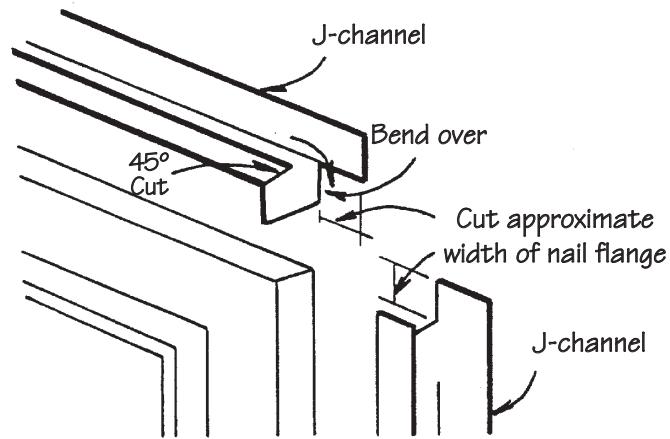

Figure 33.
- Miter cut the free flange at a 45° angle and bend the tab down to provide flashing over the side members (Fig. 33). A similar miter and tab may be provided at the bottom of the window, depending on the sill's condition. The J-channel should fit snug to the window.